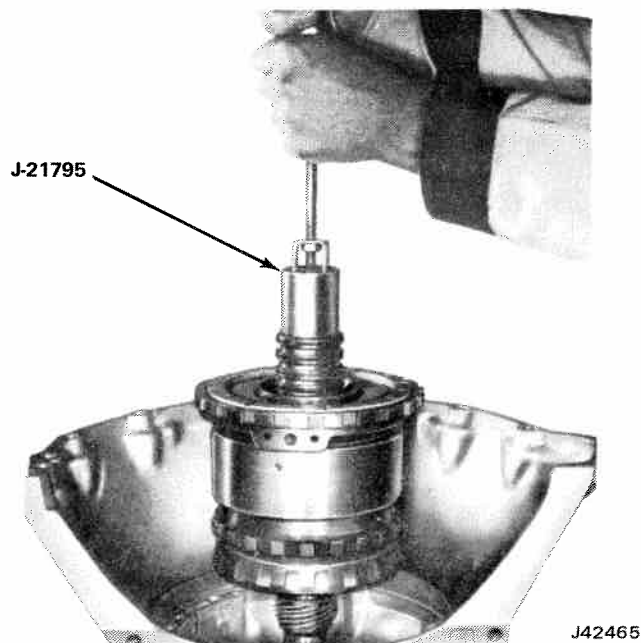
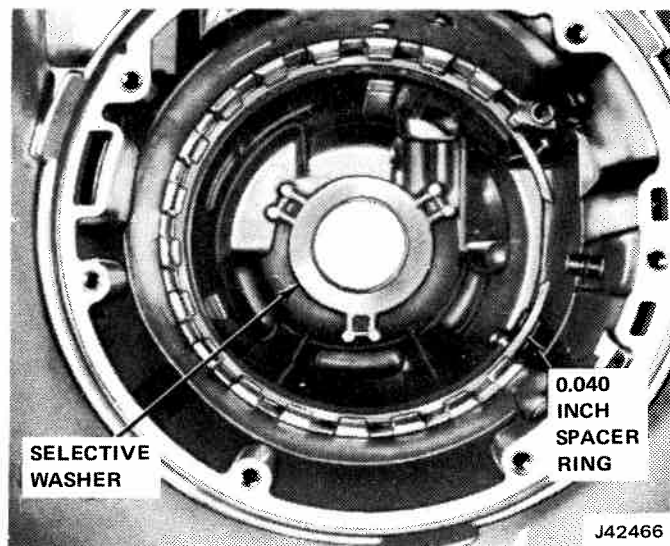

Fig. 7-35 Removing Center Support and Gear Unit
Fig. 7-36 Selective Washer and Spacer Ring
(2) Remove entire gear unit assembly from transmission case by lifting with Gear Assembly Installing and Removing Tool J-21795, with Slide Hammer C-3752 (fig. 7-35).
(3) Remove output shaft-to-case thrust washer from rear of output shaft or inside case.
(4) Place gear unit assembly, with output shaft facing down, in work bench hole and Holding Fixture J-21364.
(5) Remove rear unit selective washer from transmission case, as in fig. 7-36.
(6) Remove support to case spacer ring (fig. 7-36).